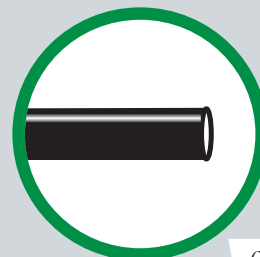

fig. 12
When cutting air lines, use a sharp knife or a hose cutter and make clean, square cuts (Fig. 12). Do not use scissors or wire cutters because these tools will deform the air line, causing it to leak around fittings. Do not cut the lines at an angle.
1. If there is a problem with the push-to-connect fitting, remove the air line as described above. Trim 1" off the end of the air line. Be sure the cut is clean and square (see Fig. 12).